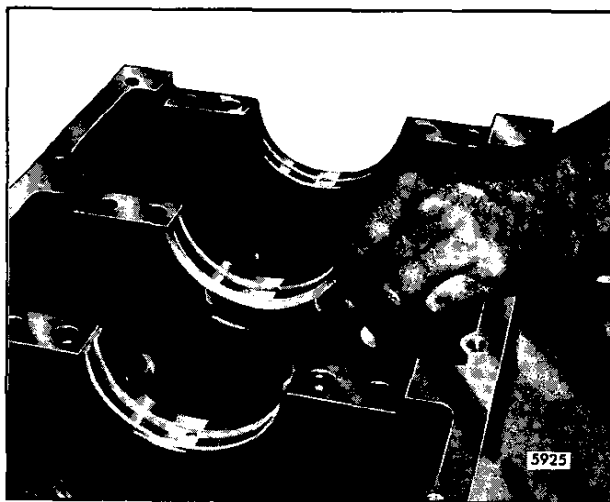

Fig. 1 - Upper Main Bearings
The crankshaft main bearing shells are precision made and are replaceable without machining. They consist of an upper bearing shell seated in each cylinder block main bearing support (Fig. 1). The number (4) main bearing (upper) is different. It has the thrust washers built into it. A lower bearing shell is seated in each main bearing cap. The bearing shells are prevented from endwise or radial movement by a tang at the parting line at one end of each bearing shell. The tangs on the lower bearing shells are off-center and the tangs on the upper bearing shells are centered to aid correct installation.